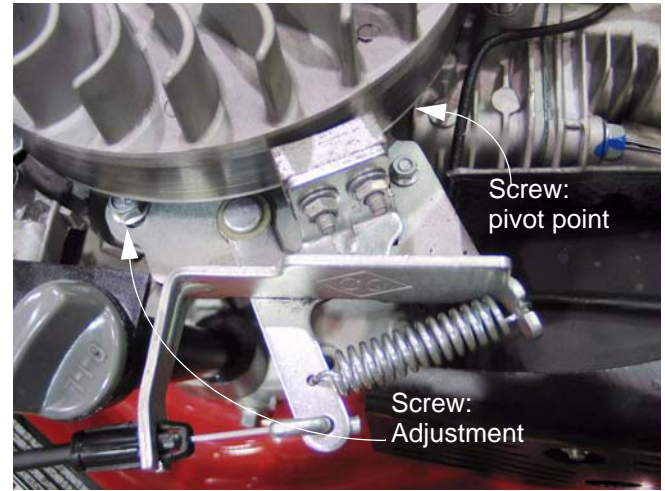

Figure 5.49
- 5.49. There are two screws that hold the brake assembly to the engine. They can be loosened using an 10mm wrench. See Figure 5.49.